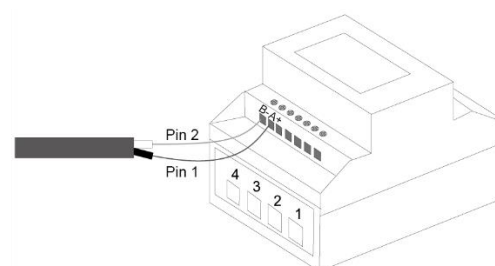

Fig. 34 Connect Network cable at Smart-Meter
4. Fit wire sleeve to the other end of the cable and connect to the contacts of the Smart-Meter. Screwdriver type: PH0, tightening torque: 0.7Nm (see Fig. 34.)